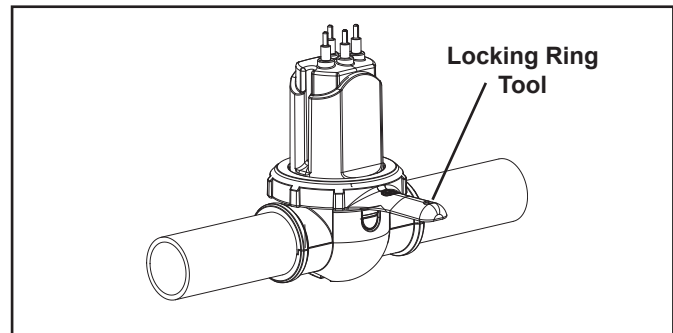

Figure 2. Undo Locking Ring
4. Remove the locking ring. If necessary use the locking ring tool (R0512600) (see Figure 2).
6. Screw down the locking ring to the threaded clamp using the locking ring tool (see Figure 2).
4. Remove the locking ring. If necessary, use the locking ring tool (R0512600) (see Figure 2).